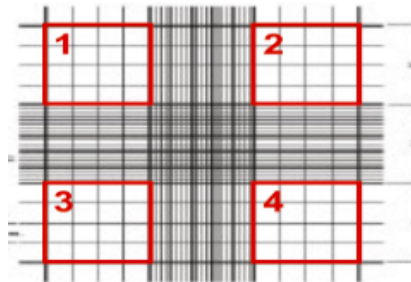

Figure 1. Hemocytometer Grid Layout (Quadrants 1-4, 64 Cells Total)
- Focus on quadrants 1–4 (see *Figure 1*).